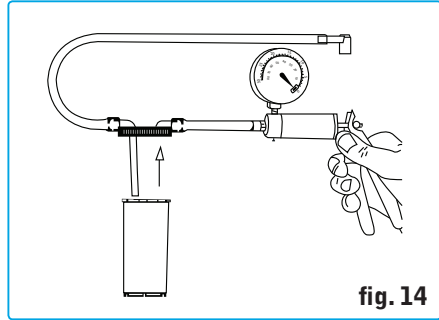

fig. 14
1. Connect the vacuum pump to the brake bleeder reservoir. Refer to the assembly diagram if you are unsure on how to do this (figure 14).